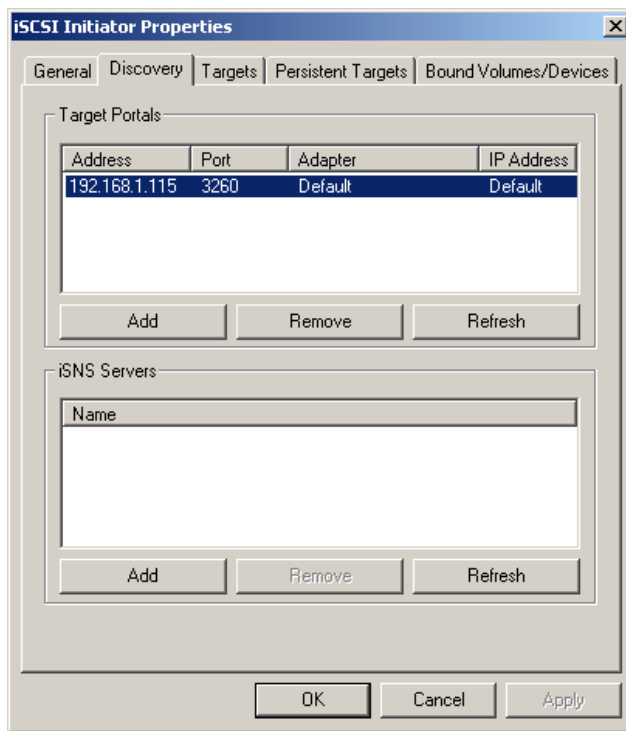

Figure 5-36. Discovery Tab on the iSCSI Initiator Properties Dialog Box
6. Click **OK**. The IP address you entered (192.168.1.115 in the example in Figure 5-36) appears in the Discovery tab.